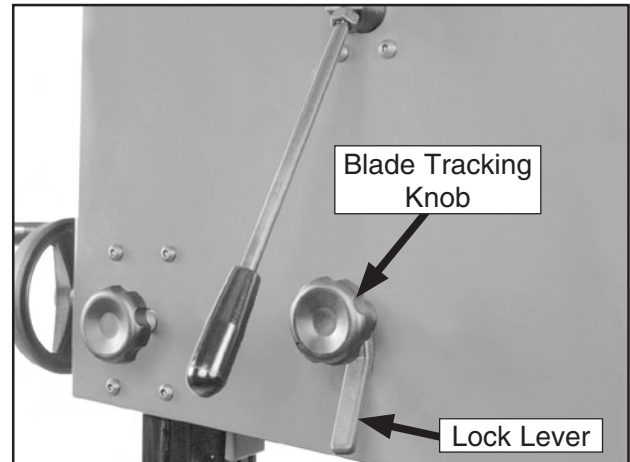

Figure 24. Blade tracking controls.
5. Loosen the lock lever (**Figure 24**) so that the blade tracking knob can rotate.